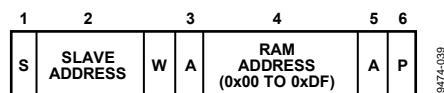
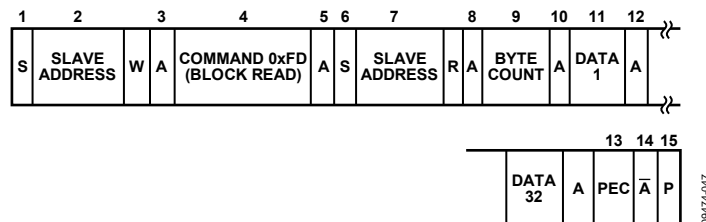

Figure 28. Setting a RAM Address for Subsequent Read
Figure 36. Block Read from the EEPROM or RAM with PEC
The SMBus specification defines several protocols for different types of read and write operations. The following abbreviations are used in Figure 28 to Figure 36:
- To write a register address to the RAM for a subsequent single byte read from the same address, or for a block read or a block write starting at that address, as shown in Figure 28.
An example of a block read with the optional PEC byte is shown in Figure 36.